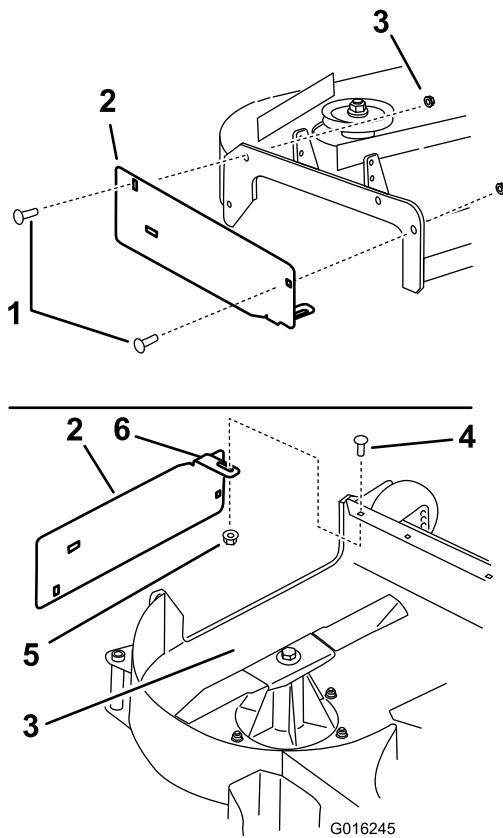

Figure 8
1. Install the discharge plate to the outside of the mounting bracket with 2 carriage bolts (3/8 x 1-1/4 inches) and 2 flange nuts (small flange) (3/8 inch) (Figure 8).
2. Install the tab to the inside of the mower deck with 1 carriage bolt (5/16 x 7/8 inch) and 1 flange nut (small flange) (5/16 inch) (Figure 8).
1. Tighten all nuts and bolts for the baffles (Figure 8, Figure 9, Figure 10 and Figure 11).